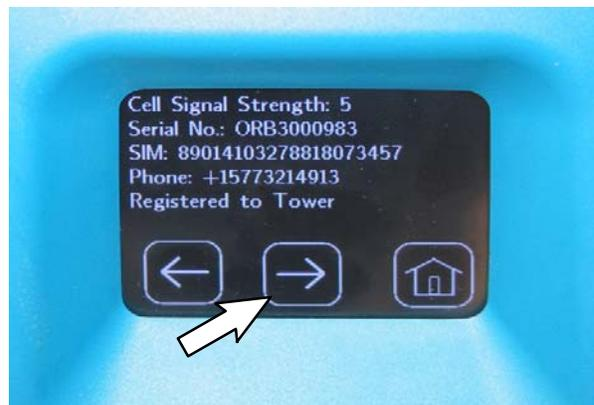

FIG. 5
9. Press the right arrow eight times until the **Cell Signal Strength** screen appears. (Fig. 5)